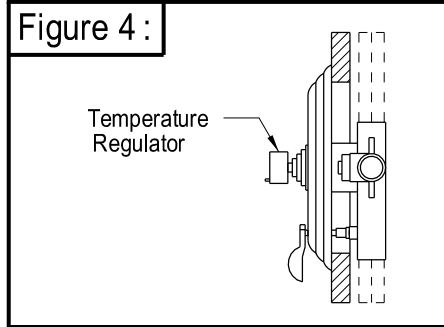

Figure 4 :
6. Use screw driver to open stop valve counterclockwise direction. (Fig.4)
8. Assemble the cap on the valve body by hand. (Fig.4)
Reset the temperature regulator on the position you would like the temperature to be. Turn on the water supply valves to make sure the temperature suits your requirement. When water is running ,check for any leaks for drip. Tightening connections as necessary. Please see Figure 4.